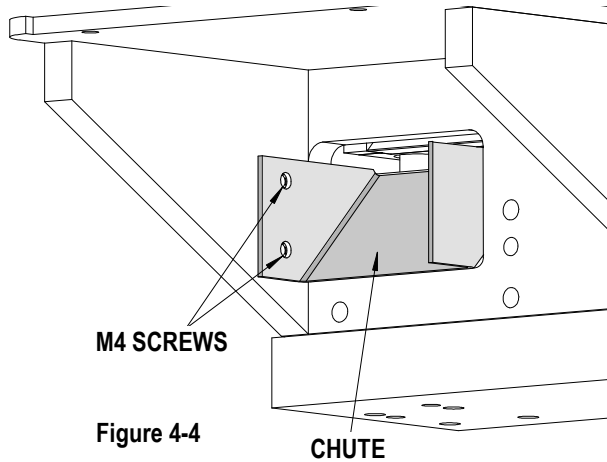

Figure 4-4
3. Install the two (2) M6 screws that hold the breakoff assembly down.
4. Remove the two (2) plugs from the A and B ports of the spare valve in the valve bank.
6. Looking at Figure 4-4, locate the carrier strip chute and mount with two (2) M4 screws.